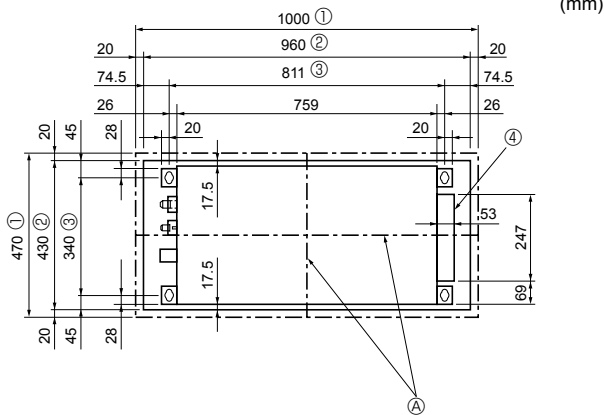
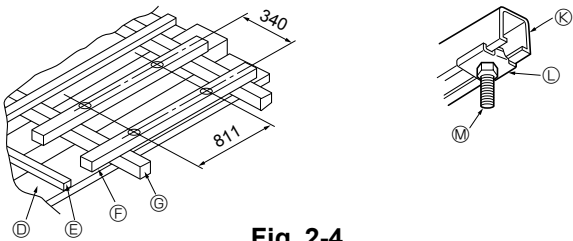

Fig. 2-3
Fig. 2-4
2.3. Ceiling openings and suspension bolt installation locations (Fig. 2-3)
- ① Outer side of grille
② Ceiling opening
③ Bolt pitch
④ Electric box
- ① Wooden structures (Fig. 2-4)